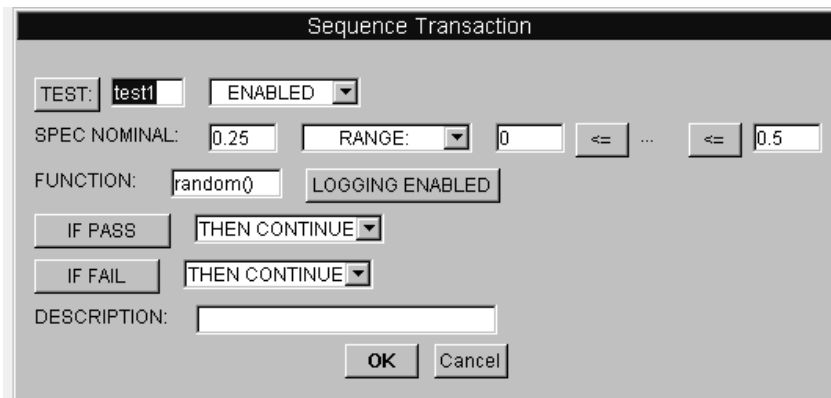

Figure 15.1. The Sequence Transaction dialog box
- Note:** This configuration will lead to a PASS result in approximately one-half of your runs. Your dialog box should look like Figure 15.1.